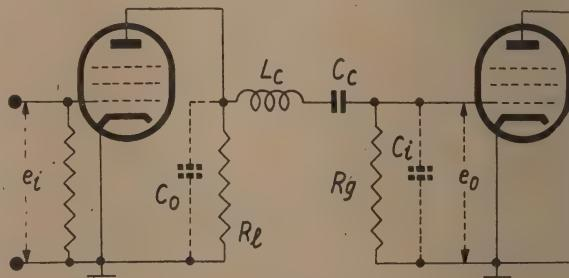

FIG.11
M.A.MacL., Wanganui, writes: "In the January, 1947, issue of your magazine you give a series-peaked circuit for wide-band amplifiers. This is on page 29, Fig. 11. Could you please give me a few details of the calculation and formulae in designing this circuit for any particular case."